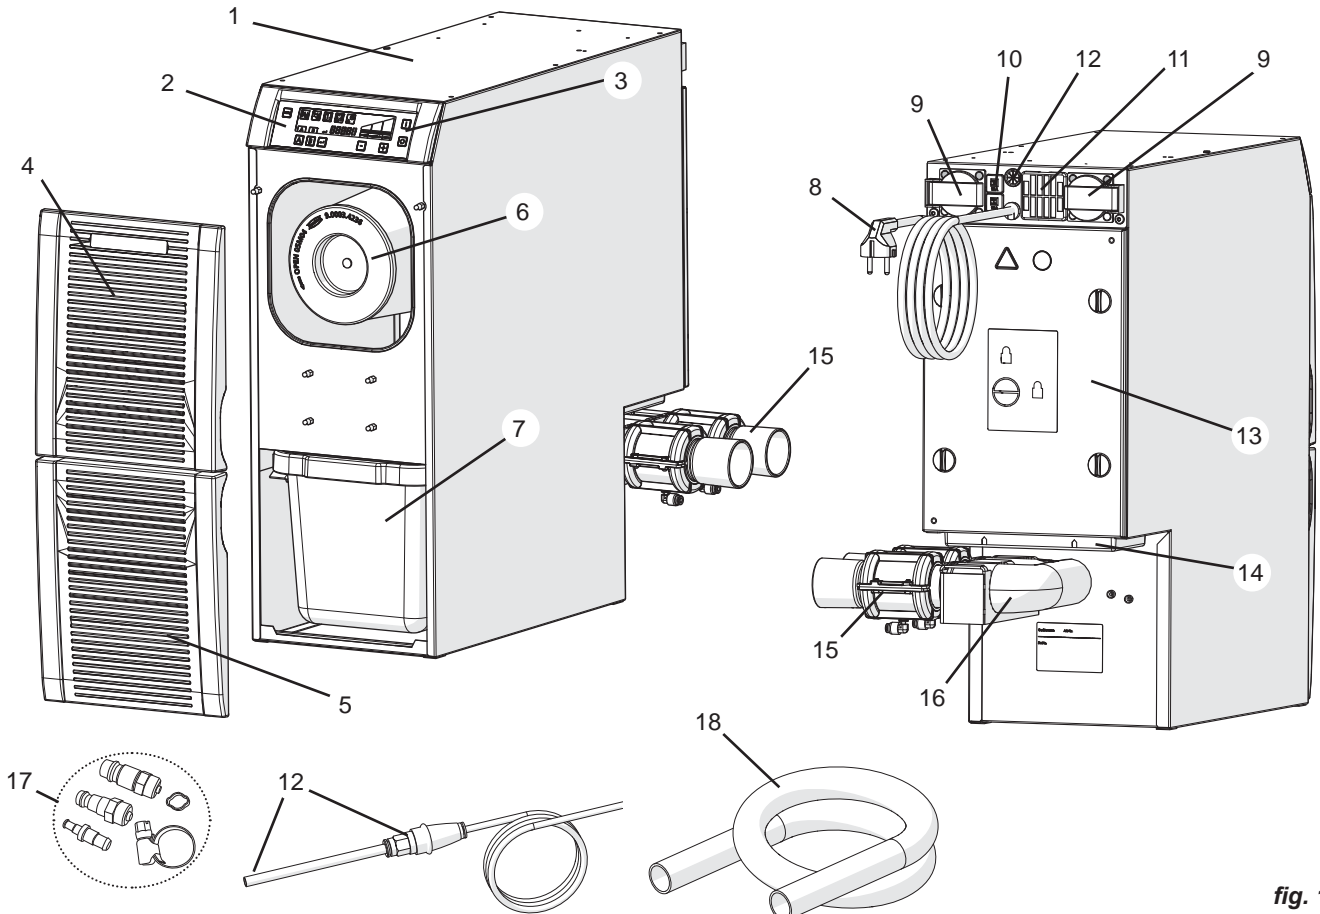

fig. 1
- The exhaust vent (14, fig.1) is not blocked.
- ⇒ Switch the device OFF at the On / Off switch (3, fig.1)
- ⇒ Select the appropriate tube connection piece from the connection set (17, fig. 1) and attach to the end of the tube.